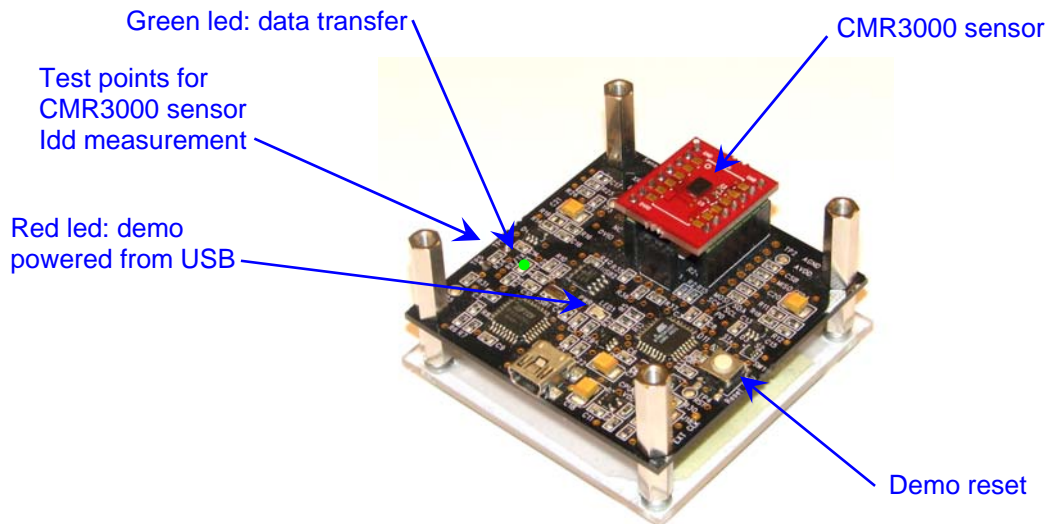
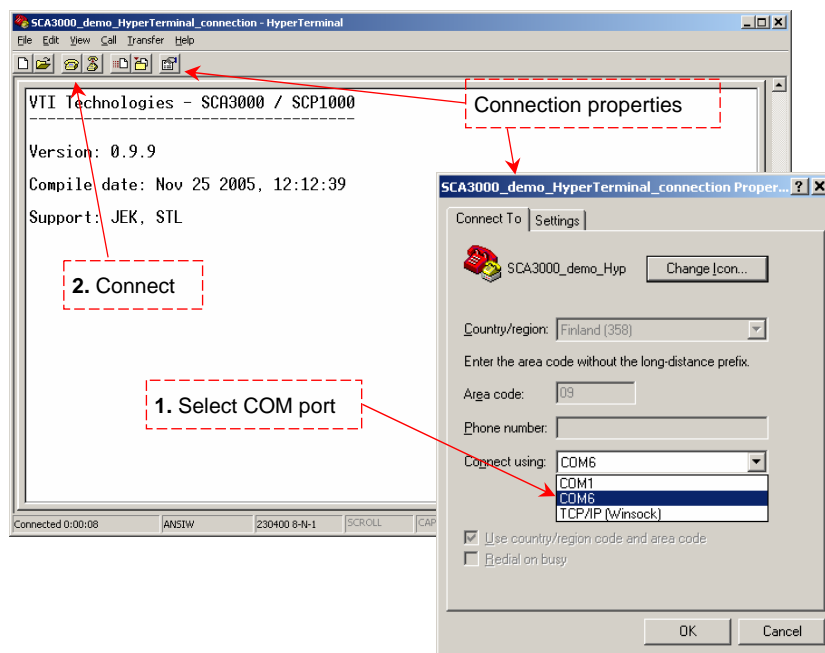

Figure 1. CMR3000 demo USB interface board and CMR3000 PWB.
Figure 5. Windows HyperTerminal with CMR3000 demo info text.
- CMR3000 sensor soldered on chip carrier PWB (see Figure 1 on next page)
- USB interface card (see Figure 1 on next page)
The CMR3000 DEMO KIT USB interface board (black PWB) and CMR3000 PWB (red PWB) are shown in Figure 1. The USB interface card converts the USB interface to SPI or I²C interface. CMR3000 sensor is soldered on PWB which is connected to interface board.
MCU can be reset by exiting from the GUI and then pressing the reset button (Figure 1) on USB interface board for min 3s.
5. Press demo reset button (see Figure 1). CMR3000 DEMO KIT sends an info text to HyperTerminal (see Figure 5). If the HyperTerminal software is unable to connect the CMR3000 DEMO KIT or the info text does not appear,
until info text appears to HyperTerminal screen (see Figure 5).
1. Stop the GUI software, press the reset button program on demo USB interface board (see Figure 1), re-start the GUI again.
- see if the info text appears on the screen (see Figure 5)→ if the info text is transmitted, the communication between the demo kit and PC is ok